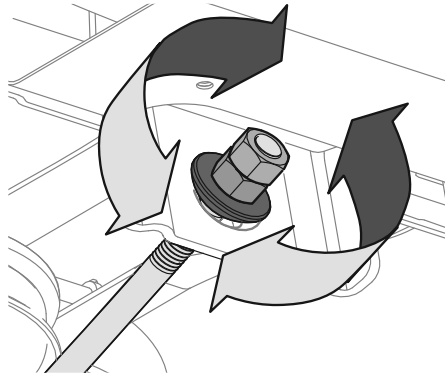

Figure 28
4. To *raise* the front of the deck, loosen the outer nut then tighten (thread inward) the inner nut against the front hanger bracket. See Figure 28. When proper adjustment is achieved, re-tighten the outer nut to 25-30 ft.-lbs (34-40.7 N-m).
5. To *lower* the front of the deck, loosen the outer nut then loosen (thread outward) the inner nut, away from the front hanger bracket. See Figure 28. When proper adjustment is achieved, re-tighten the outer nut.